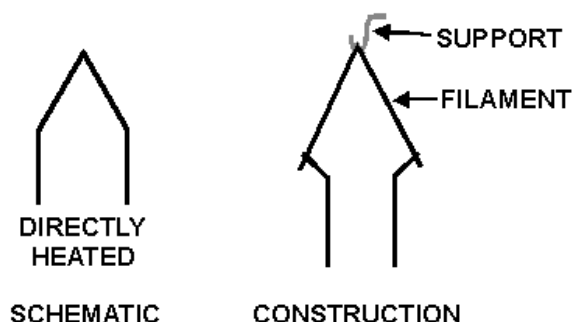

Figure 1-6.—Cathode schematic representation.
**DIRECTLY HEATED.**—The filament that has been discussed so far is the directly heated cathode. Directly heated cathodes are fairly efficient and are capable of emitting large amounts of electrons. Figure 1-6 shows this type and its schematic symbol.